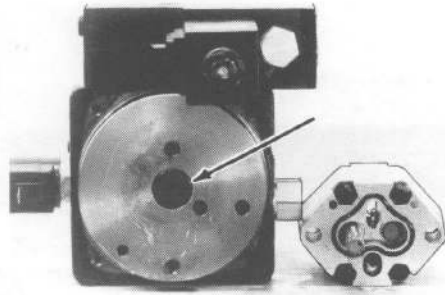

Figure 2-22
8. Remove the shaft seal and the coupler from the valve body. See Figure 2-22.